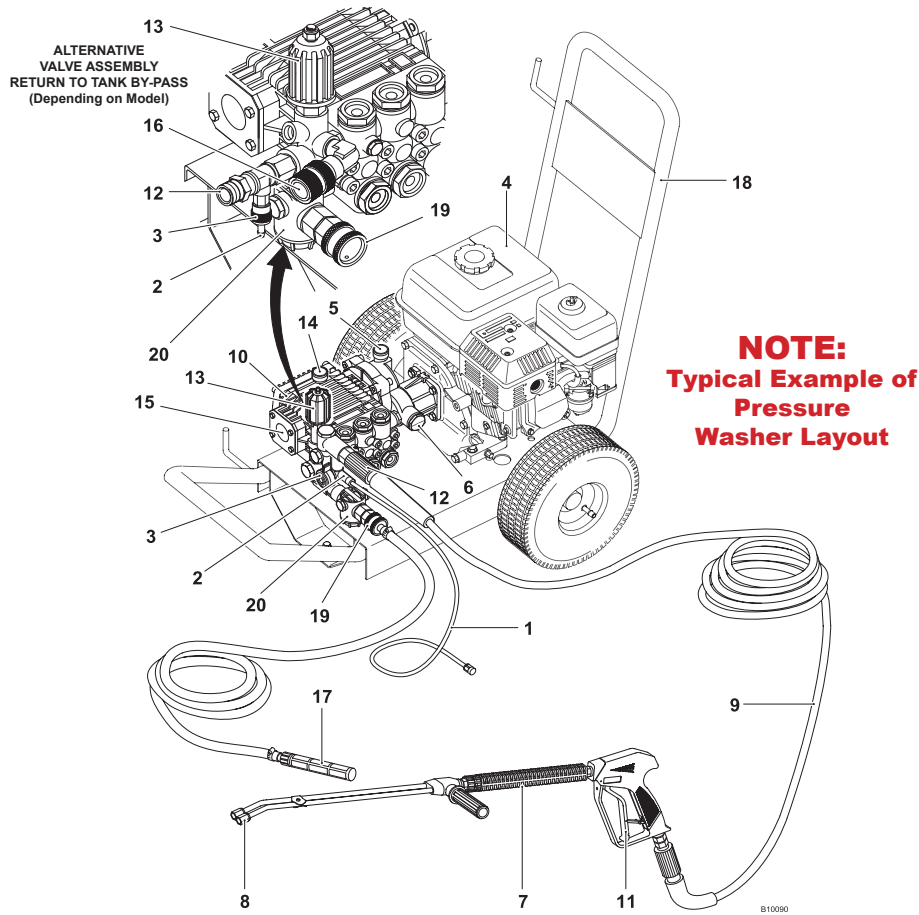

Fig 2 Description of main features
6.2.3 Squeeze the trigger to start the high-pressure jet, proceed to wash the object. Adjust the working pressure by turning the pressure regulator knob + or - to suit the application (fig 2, item 13). Never direct the high-pressure stream at the engine or pump as this could cause irreparable damage.
Attach the detergent induction pipe to the power washer, (fig 2, item 1) placing the opposite filter end into the detergent container. Select the low pressure setting on the lance, (see appendix 1 for details of your lance) and spray the water/detergent mixture onto the object being cleaned. Leave the detergent for the period recommended by the chemical manufacturer allowing it time to work, washing off with clean water. The volume of detergent used can be controlled by means of the regulator on the suction valve (see fig 2. item 3).
4. Description of Main Features (fig 2)
- 5.6 Connect the water return line to its connector and place the other end in the water supply container. Bypass to tank models only (**fig 2 item 16**) (**Fig 4 No.1**)